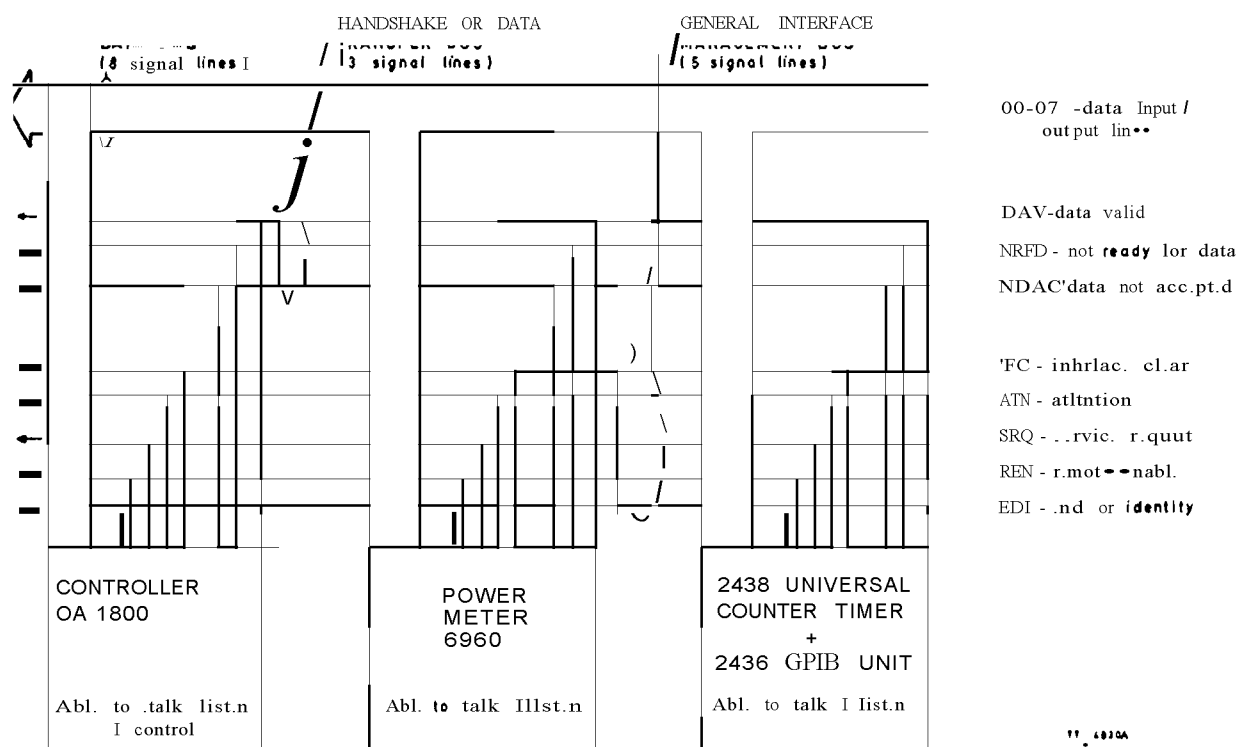

Fig. 11 Interface bus structure
74. The function of the board is to provide buffering between the general purpose interface bus and the 8291 GPIB handler. The external controller directs the flow of data on the bus and designates when the 6960 is to send data and when it must receive it. The bus uses 16 signal lines to connect all units of a system in parallel. These lines are sub-divided into data, transfer and interface management buses as shown in Fig. 11.